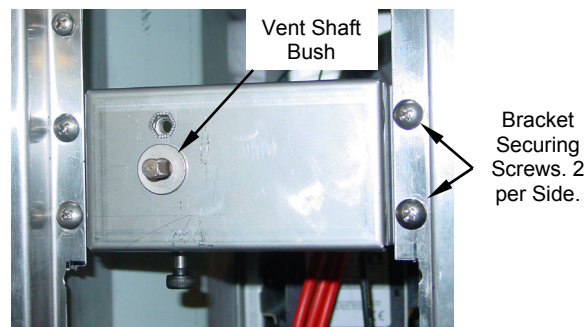

Figure 6.3.24b
- 11) Refit the vent shaft bush over the vent shaft and into the centre of the vent shaft bracket. (see Figure 6.3.24b).